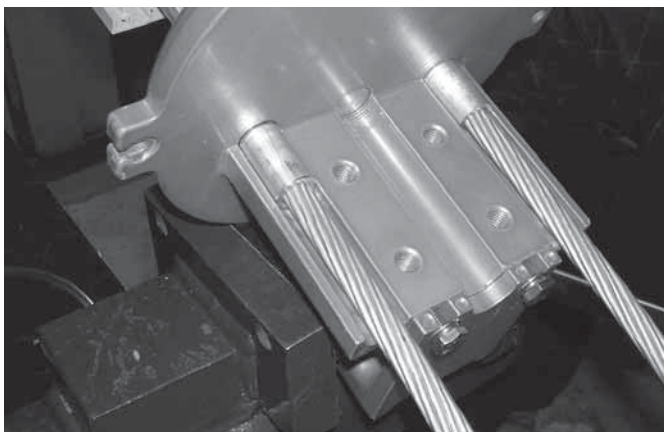

Figure: 5
- Push Fibre tubes through reduction and sealing ferrule (gland ferrule) provided in the kit. (See Fig 5)